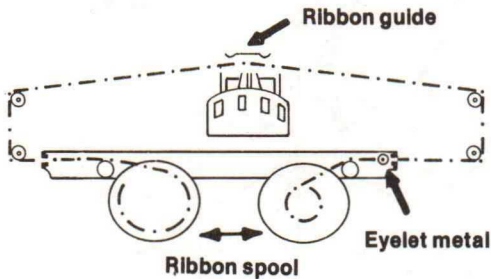

Figure 2-14. The ink ribbon pass for the Gemini-10X.
Telling you how to set the ribbon is like writing a narrative describing how to tie your shoelaces. Figure 2-14 and 2-15 show you the way to thread the ribbon on the Gemini-10X and Gemini-15X, respectively. But before you try it, you would do well to review the hints provided here.
*Hint #2:* Slide the print head gently with your fingers to the approximate center of its pathway (Figures 2-14 and 2-15).